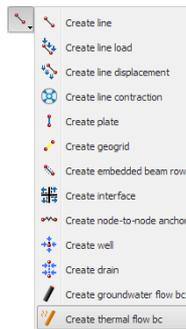

Figure 15.2 The *Create thermal bc* option in the *Create line* menu
-  Select the *Create thermal flow bc* option in the expanded menu (Figure 15.2).